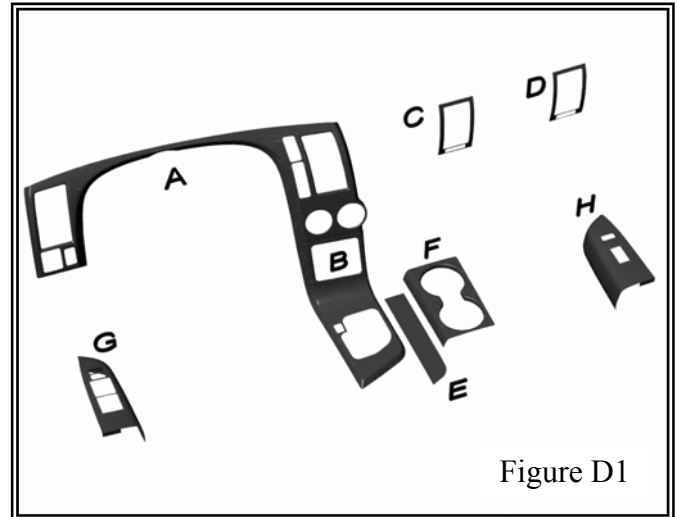

Figure D1
- i. Thoroughly clean all surfaces shown. (Figure D1, D2 or D3)
- ii. Dry with another clean, dry cloth. (Figure D1, D2 or D3)